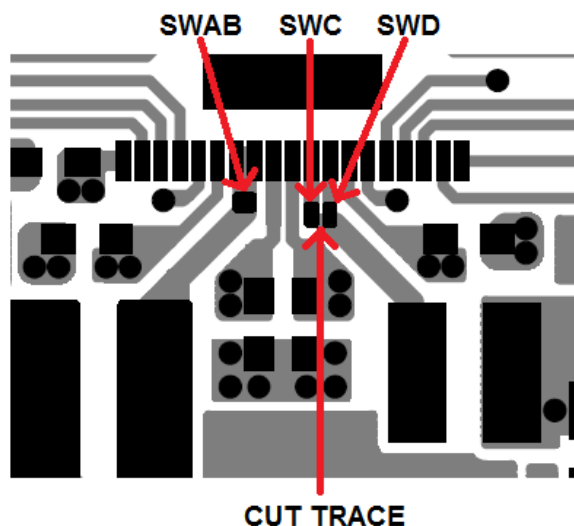
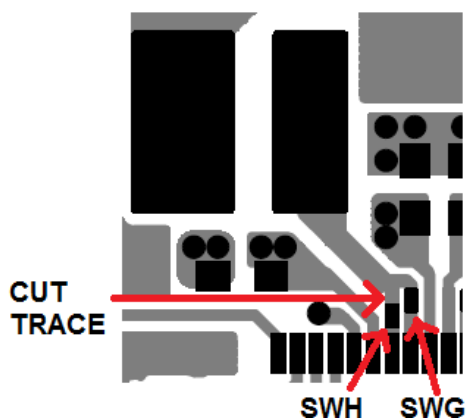

Figure 5. Cut SWC and SWD Connection Near Pins
Figure 6. Cut SWH Trace Between L4 and SWH Pin
4. Any switch node associated with a  $V_{IN}$  trace that was cut will also need to be cut. The SWC/SWD traces and SWD/SWF traces can be cut in between the pads near the SW pins as shown in Figure 5. The SWG/SWH traces only need to be cut for the 4112 configuration. SWH needs to be cut between the SWH pin and L4 as shown in Figure 6.
6. All switch nodes of adjoining power stages will need to be connected together. Each power stage has a pad to solder a small bus wire, 28AWG. The switch node pads are also shown in Figure 5 and Figure 6. Carefully solder a bus wire as short as possible between adjoining power stages.